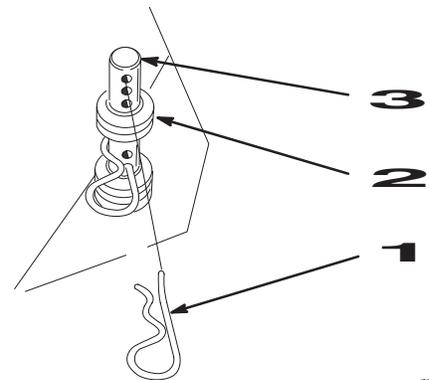

Figure 8
1. On opposite side of muffler, install extra hairpin cotter pins into front and rear height-of-cut pins (Fig. 8).